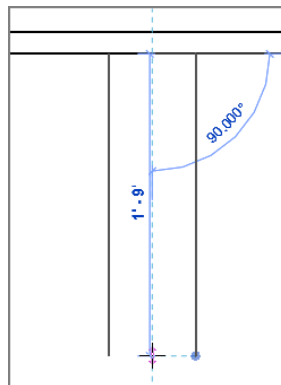

FIGURE 12.58: By setting an offset of 3" (75mm), you can draw two lines using a common centerline.
11. For the first point of the line, pick the midpoint of the bottom line, as shown in Figure 12.58.